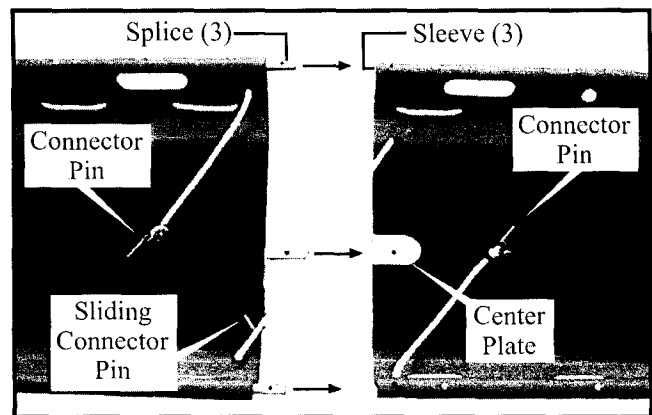

Figure 2 - Joining the Stretcher Halves
1. Slide the three projecting metal splices on the head-end half of the stretcher into their corresponding sleeves on the foot-end half (Figure 2).